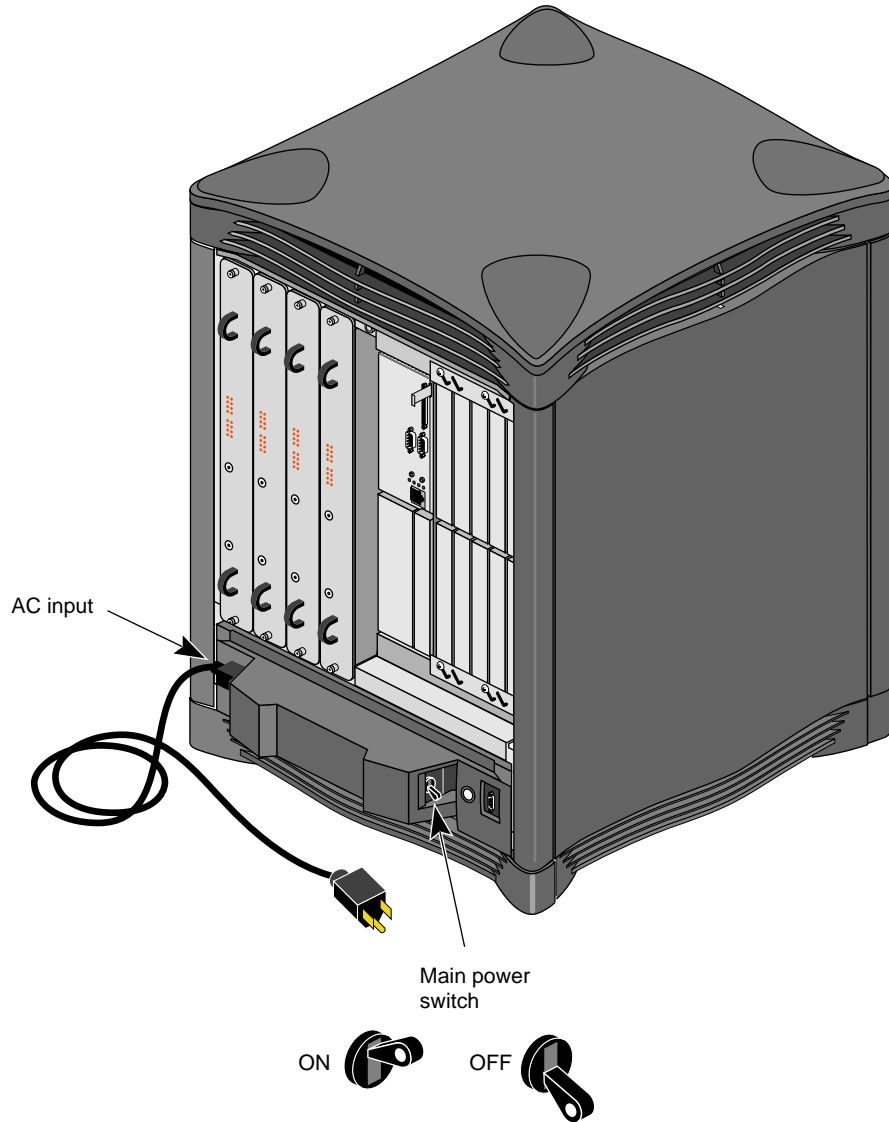

Figure 3-6 System Power Cable and Switch
3. Switch the system circuit breaker to the off position to eliminate all power to the midplane and power supply (see Figure 3-6 for the location of the switch).